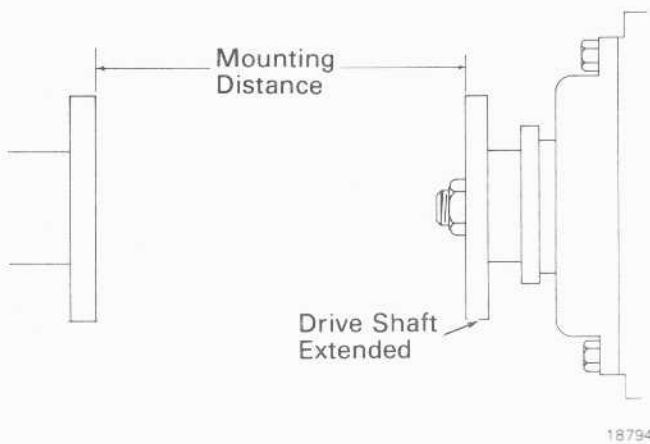

Fig.13 – Auxiliary Generator Coupling Measurement
2. Establish the mounting distance between the coupling flanges of the drive assembly and the auxiliary generator, Fig. 13. See Service Data, Table II, to find the correct distance for each specific coupling assembly.